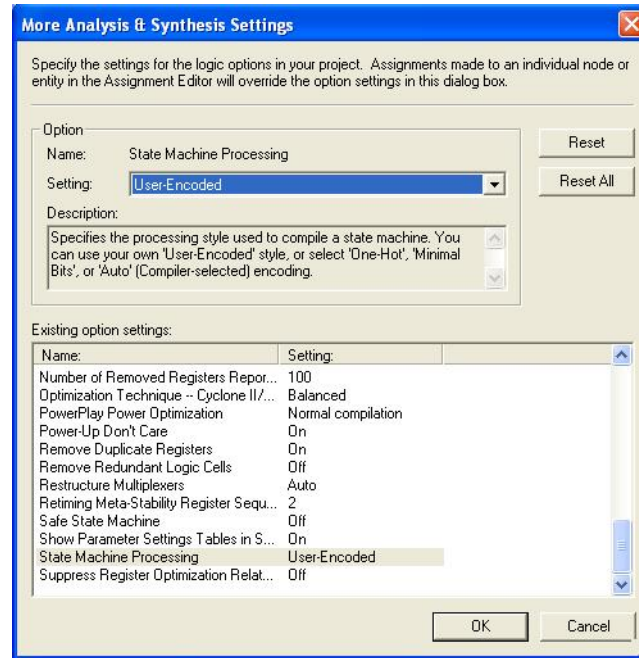

Figure 4. Specifying the state assignment method in Quartus II.
3. Before compiling your code it is necessary to explicitly tell the Synthesis tool in Quartus II that you wish to have the finite state machine implemented using the state assignment specified in your Verilog code. If you do not explicitly give this setting to Quartus II, the Synthesis tool will automatically use a state assignment of its own choosing, and it will ignore the state codes specified in your Verilog code. To make this setting, choose **Assignments > Settings** in Quartus II, and click on the **Analysis and Synthesis** item on the left side of the window, then click on the **More Setting** button. As indicated in Figure 4, change the parameter **State Machine Processing** to the setting **User-Encoded**.